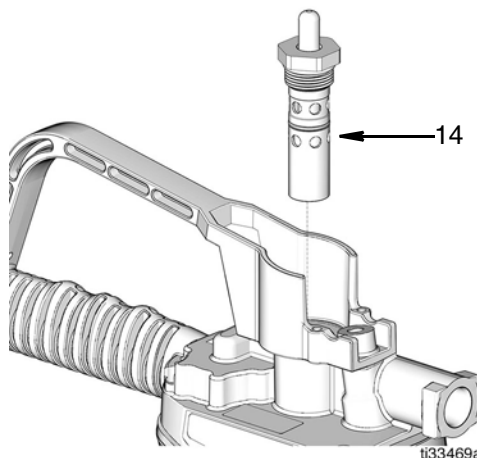

FIG. 35
- b. Install new valve assembly (14) (Kit 25D904) in housing (FIG. 35). Torque to 20 to 30 ft. lb (27.12 to 40.67 N•m).